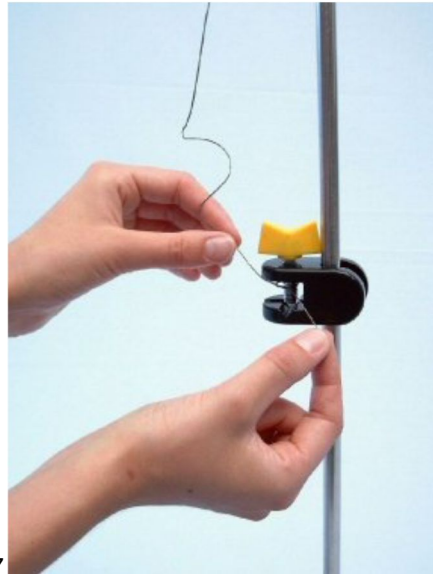

Fig. 8
- Tie the fish line to the second bosshead (Fig. 8).